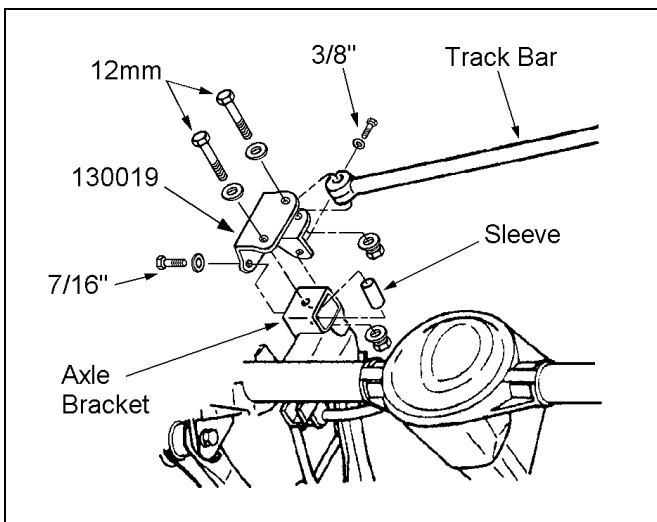

Figure 13
- 1) Place track bar bracket 130019 on top of the axle bracket as shown in figure 13. To properly align the bracket, insert a 12mm bolt from kit 860072 through both brackets.
- 3) Reinstall the track bar bracket and attach it to the axle with the sleeve and hardware from kit 860072. See Figure 13. Tighten to specifications.